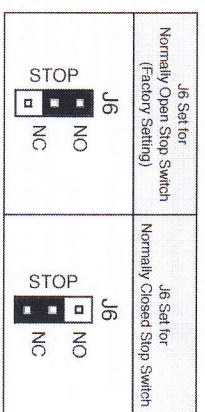

FIGURE 21 – STOP SWITCH TYPE SELECTION
F. Stop Switch Type Selection (J6) – Jumper J6 is factory set to the “NO” position for a normally open stop switch, as used on the front cover. If a remote normally closed stop switch is used, set Jumper J6 to the “NC” position. If a remote normally open stop switch is used, set Jumper J6 to the “NO” position. See Figure 21.